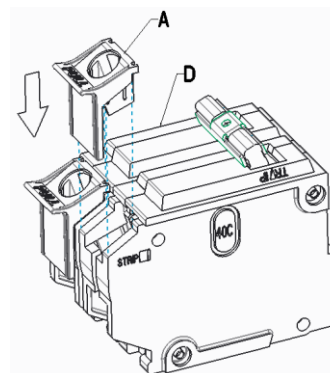

Figure 1: Insert Service Barrier onto Main Circuit Breaker
2. Insert the Service Barriers (A) onto line side of circuit breaker (D) as shown in Figure 1. Two Service Barriers included with the kit, need to assemble to both the poles.